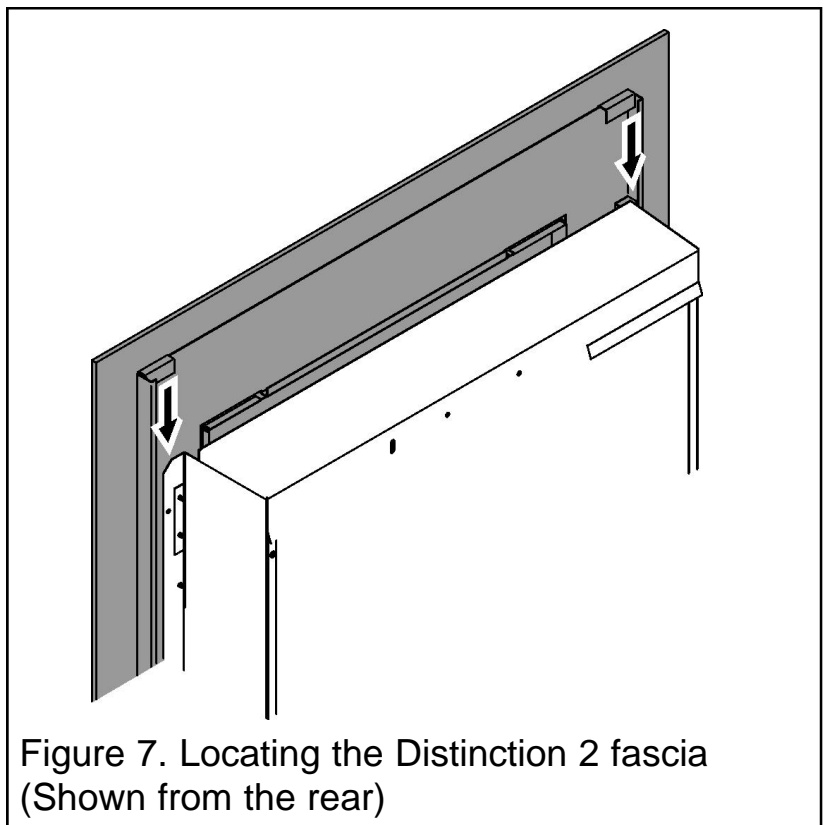

Figure 7. Locating the Distinction 2 fascia (Shown from the rear)
1. The rear of the fascia has two vertical metal strips. The tops of these strips have a 'U' shape. Hang the fascia to the top side flanges of the heater using these 'U' channels (See figure 7).